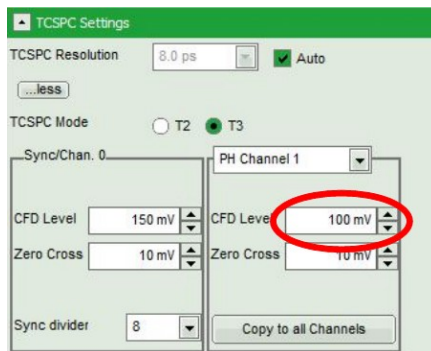

Fig. 6.1: Adjustment of the **CFD threshold level** by using the SmyPhoTime64 software
In case you bought the PMA Hybrid without a complete system, the CFD threshold setting must be adjusted. This setting can be adjusted in the SymPhoTime64 software. Please make sure to have administrator rights and start the software in the "configuration" mode from the start menu. The measurement for the setting is done in the "Test" Tab using the "TCSPC Settings" drop down window (Fig. 6.1).
- HydraHarp and PicoHarp TCSPC: Set the CFD level to 100 mV, as displayed in Fig. 6.1.